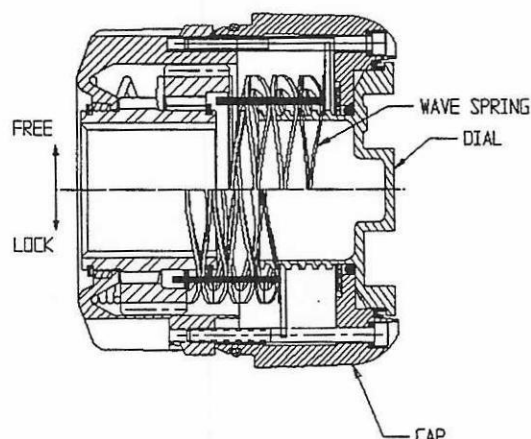

Figure 10 - Hublock Cross Section
9. Place hublock cap on body as shown in Figure 10.